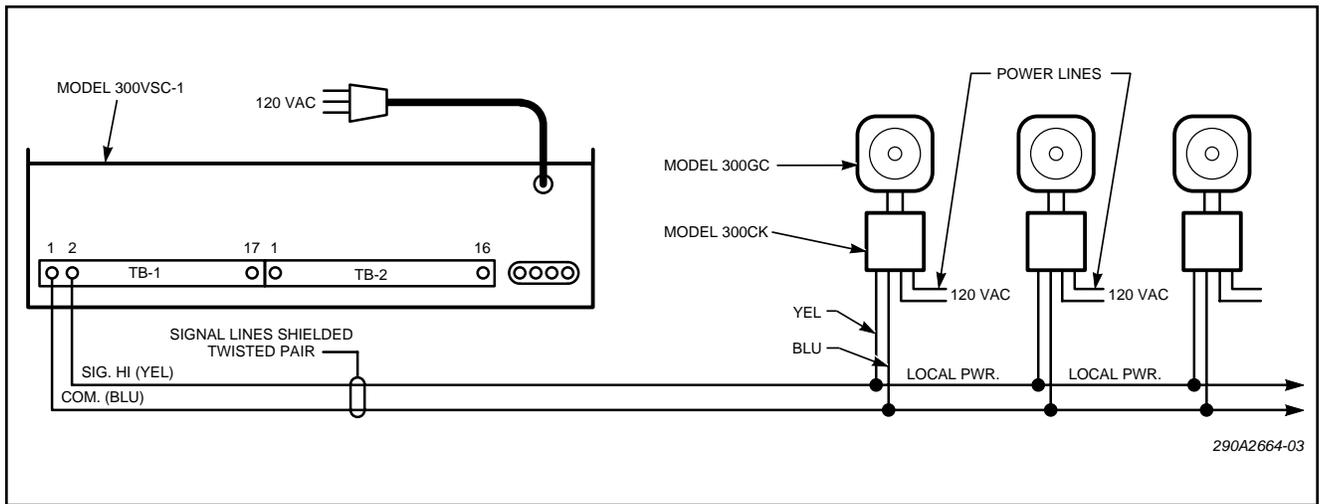

Figure 3-3. Typical Local Power System.
A. Local Power (see figure 3-3).